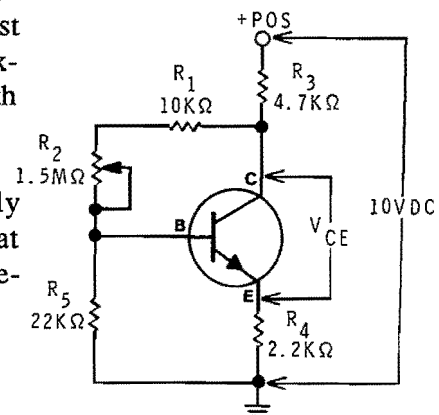

Figure 1-34
10. Turn off your Trainer. Then rewire your circuit so that it appears as shown in Figure 1-34. Notice that  $R_1$  and  $R_2$  must now be connected between the transistor's collector and base. This will provide collector feedback in addition to the emitter feedback and voltage-divider bias.